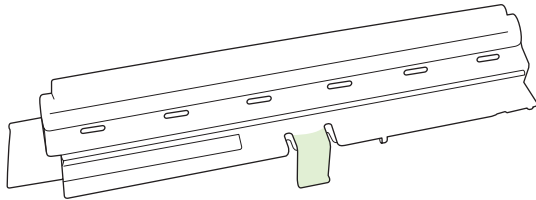

Figure 5-46 Remove the density sensor cover
- 2 Press the tab (shown in Figure 5-46 Remove the density sensor cover) on the sensor cover to release the cover, and then lift the cover up and away from the device.